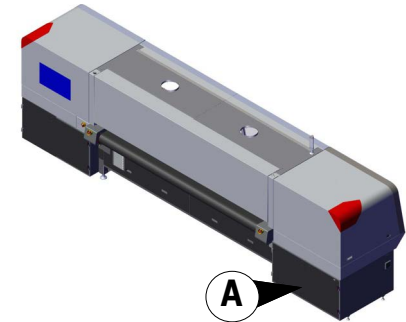

Figure 4-17 Printer Rear View
1. Open waste container compartment doors, Figure 4-17 location (A).